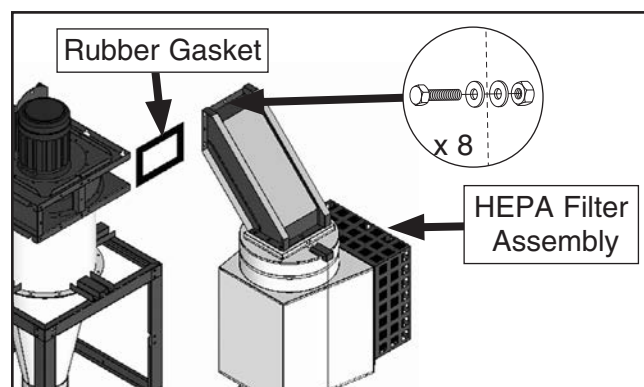

Figure 18. Attaching HEPA filter assembly to blower housing.
18. Attach rubber gasket to blower housing (see **Figure 18**), then secure HEPA filter assembly using (8) $\frac{3}{8}$ "-16 x 1" hex bolts, (8) $\frac{3}{8}$ " hex nuts and (16) $\frac{3}{8}$ " flat washers.